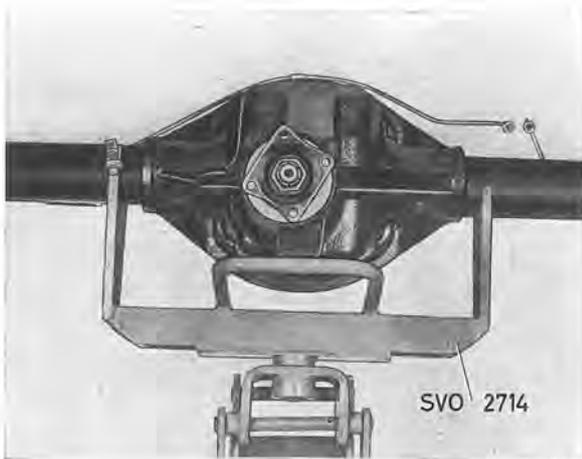

Fig. 4-165. Fixture for rear axle
1. Place the rear axle on fixture SVO 2714, which is mounted on a garage jack, see Fig. 4-165. Move the rear axle in under the vehicle and fit on the bolts for the support arms and torque rods.